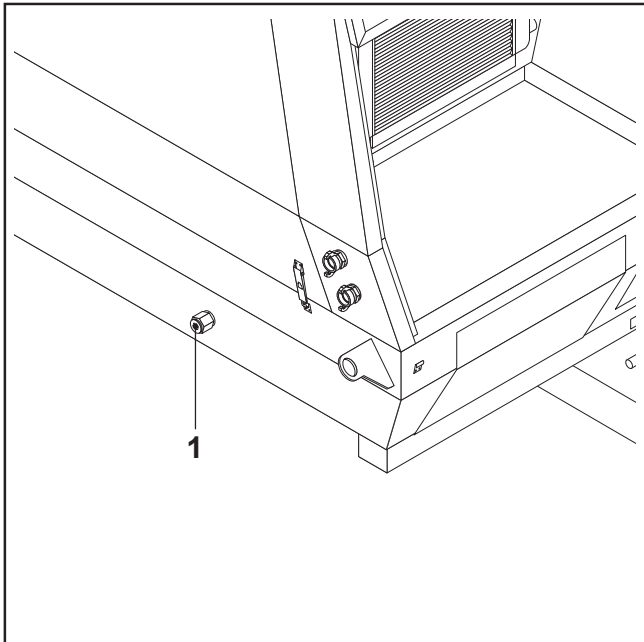

FIG.67
- Remove the plug (FIG. 67-REF. 1) and drain the oil.